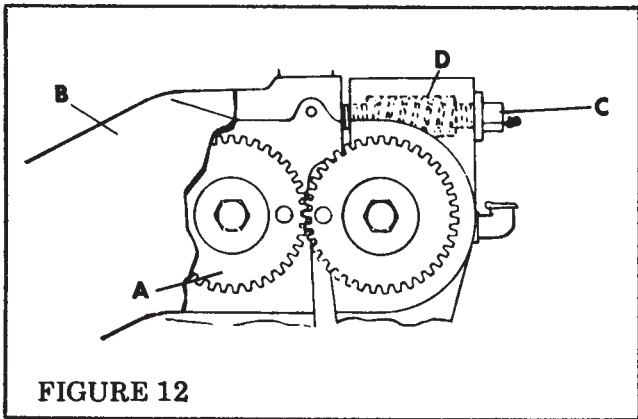

FIGURE 12
Stitchers equipped with 1/4" or smaller size cutter blades are correctly timed when the left hand feed wheel arrow is approximately horizontal when the stitcher is in neutral. The gears are also marked (Index A, Figure 12) so that when meshed with these marks opposite each other, the machine is timed properly for the size cutter blade with which the machine was originally equipped. When changing from 1/4" or smaller size cutter blades to 5/16" or larger size blades, the wire will usually buckle between the feed wheels and the feed tube unless the machine is retimed.
- (1) Remove the gear guard (Index B, Figure 12).
- (2) Remove the compression spring stud (Index C, Figure 12) and compression spring (Index D, Figure 12), loosening the head plate hinge. Do not let hinge plate fall away.
- (3) Move hinge plate slightly so gears become disengaged and then turn free gear up one notch.
- (4) Press hinge plate to engage gears.
- (5) Insert compression spring and stud.
- (6) Tighten.
- (7) Re-adjust length of the right leg. (Also see "FEED WHEELS", Page 14).